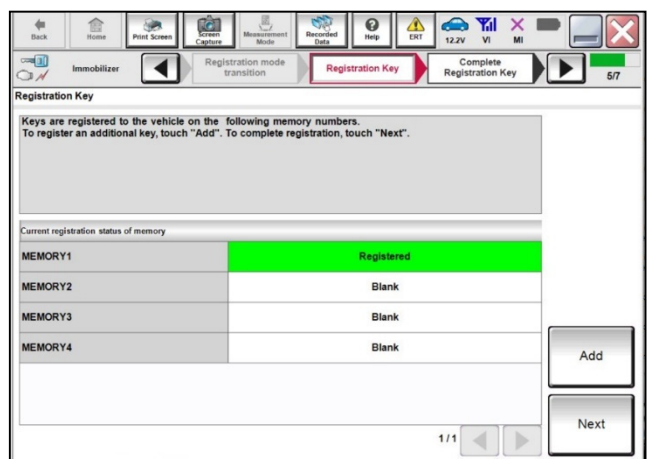

Figure 13
21. Once the key is registered, the screen in Figure 13 will be displayed.